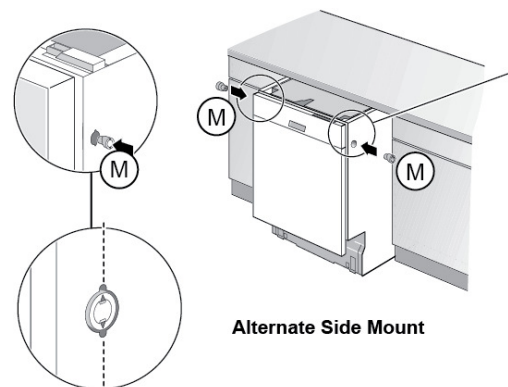

Figure 19
Alternate Side Mount for opening $23\frac{5}{8}"$ (600 mm). Insert a side mount force distributor (M) in each side as shown in **Figure 19**.